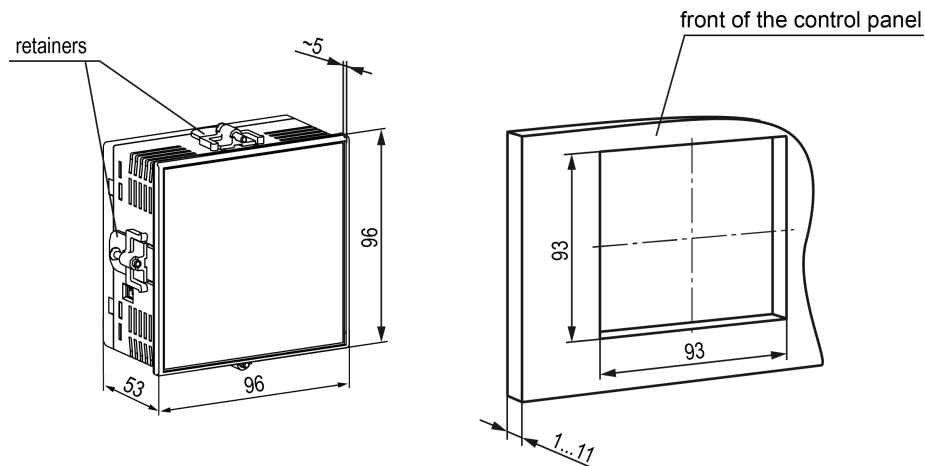

Fig. 4.2 Dimensions of P1 enclosure and mounting cutout
1. Using the supplied cutout template, prepare the mounting cutout in the control panel where the device should be mounted (see Fig. 4.2).